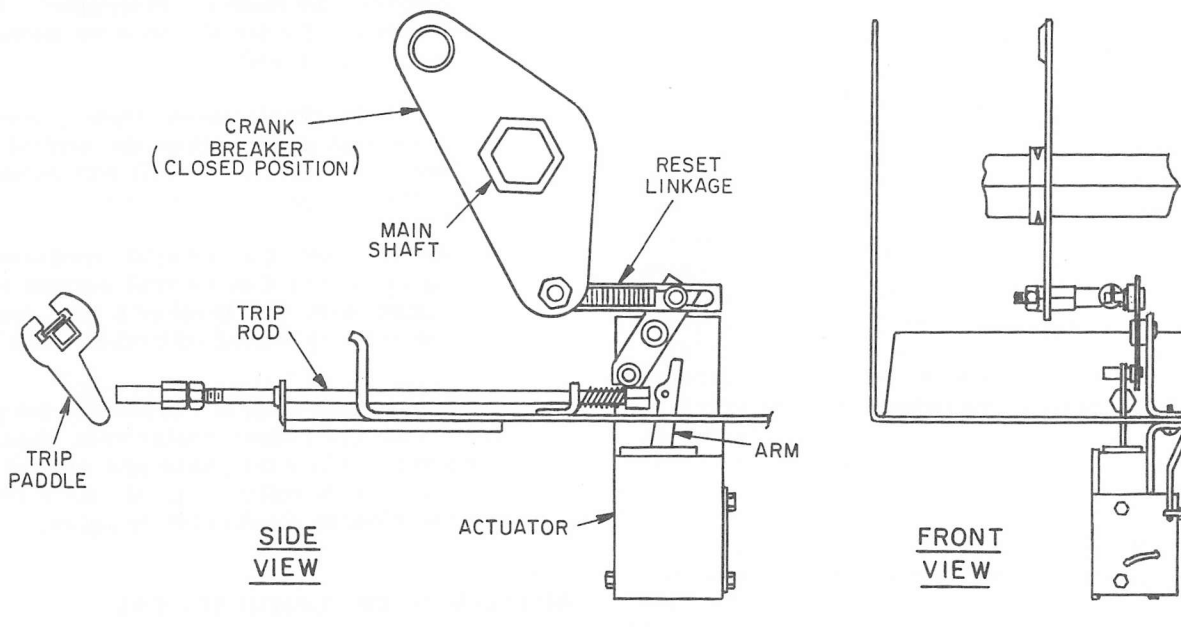

Fig. 22. Flux shift trip device and operating linkages
**Flux Shift Trip Device** - a low-energy, electromagnetic device which, upon receipt of a trip signal from the programmer unit, trips the breaker by actuating the trip shaft. See Fig. 22.
The mounting arrangement of this component is illustrated in Figs. 22 and 23. An electromagnetic actuator located on the underside of the front frame is coupled to the breaker's trip shaft via a trip rod driven by the actuator arm. The actuator is a solenoid whose armature is spring-loaded and held in its normal (Reset) position by a permanent magnet. In this state the spring is compressed.